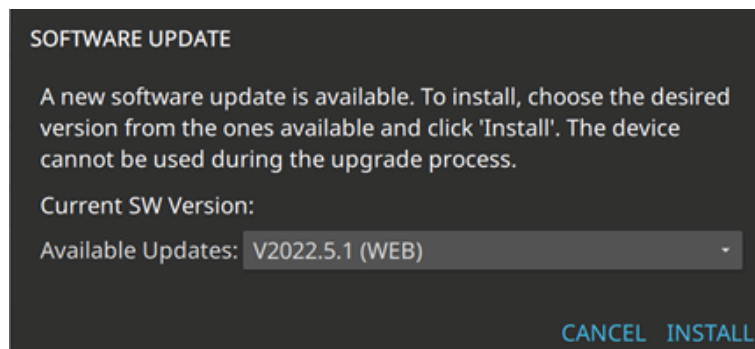

Figure B-3. Software Update Dialog
5. Touch the software update icon to display the SOFTWARE UPDATE window as shown in Figure B-3.
4. Touch the software update icon to display the SOFTWARE UPDATE window shown in Figure B-3.